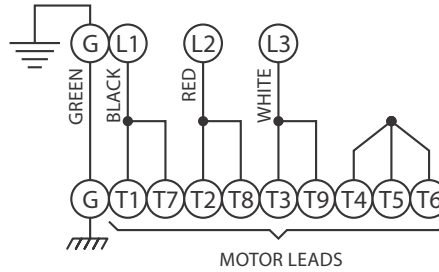

**Figure 3**
7. Remove wire nut, friction rings and grommet from motor housing (3). Pull cord through and disconnect the wires from the terminals.
9. Remove screws (12) and lift motor housing (3) from seal plate (15).
10. Remove o-ring (2), replace if damaged.
11. Remove motor bolts, lift motor stator assembly from seal plate (15).
12. On Single Phase units only. Check motor capacitor (4) with an Ohm meter by first grounding the capacitor by placing a screwdriver across both terminals and then removing screwdriver. Connect Ohm meter (set on high scale) to terminals. If needle moves to infinity ( $\infty$ ) then drifts back, the capacitor is good. If needle does not move or moves to infinity ( $\infty$ ) and does not drift back, replace capacitor (4).
14. Lift motor rotor, shaft, bearing (6), rotating member of seal, washer (7) from seal plate (15). See Figure 3.
15. Remove seal parts from shaft. Examine all seal parts, if seal faces show signs of wear, uneven wear pattern, chips or scratches replace entire seal. **DO NOT interchange seal components, replace the entire shaft seal (24).** If replacing seal, remove stationary from seal plate (15) by prying out with flat screwdriver.